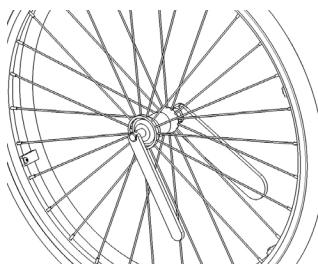

Fig. 32
- Hold the axle with a wrench at the other end (near the detent balls) (Fig. 32) and turn the nut behind the quick release button to change the length of the axle.